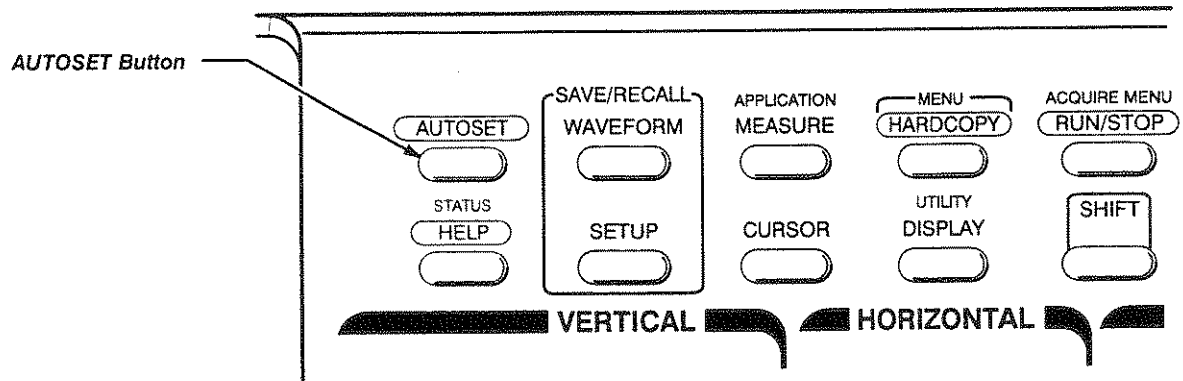

Figure 1-7: AUTOSET Button Location
1. Press the **AUTOSET** button (see Figure 1-7) and observe the stable waveform display.